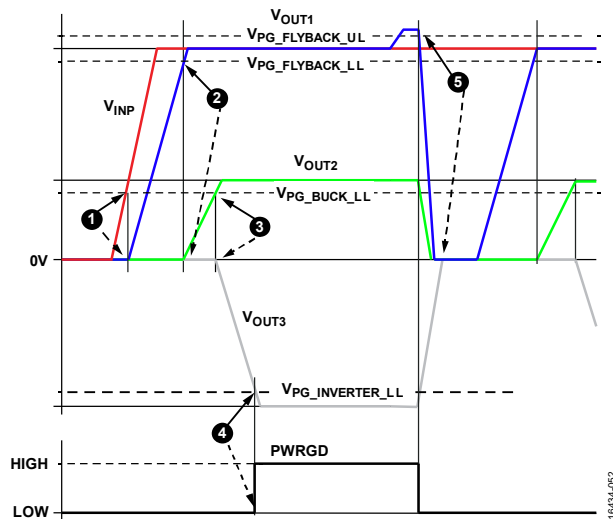

Figure 66. Power-Up Sequencing and PWRGD
The power-up sequence is as follows (see Figure 66):
1. The flyback regulator powers up first (see 1 in Figure 66).
2. When VOUT1 rises above the lower power-good threshold ( $V_{PG\_FLYBACK\_LL}$ ), the buck regulator turns on (see 2 in Figure 66).
3. When the buck regulator output (VOUT2) rises above the lower power-good threshold ( $V_{PG\_BUCK\_LL}$ ), the inverting regulator turns on (see 3 in Figure 66).
4. PWRGD is driven high when the inverting regulator output (VOUT3) is below the power-good threshold,  $V_{PG\_INVERTER\_LL}$  (see 4 in Figure 66).
5. If any of the three analog supplies move outside the power-good threshold ranges, PWRGD drives low after a short glitch delay (see 5 in Figure 66).